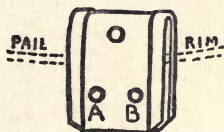

FIG. 38.
**Forming the Lugs for the Handle.**—Cut two pieces of tin, each  $1\frac{1}{2}$  by  $3\frac{1}{2}$  inches, fold over  $\frac{1}{4}$  inch on each of the long sides of these two pieces, then double over each piece with the folds outside, as shown in Fig. 38. Snip off the corners, then place the lugs on the maple block and punch three holes in about the position shown. See that the